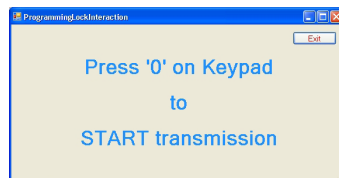

Figure 15
6. Press the **0** key on the keypad to begin transmitting the configurations to the lock. (Figures 15, 16, & 17).